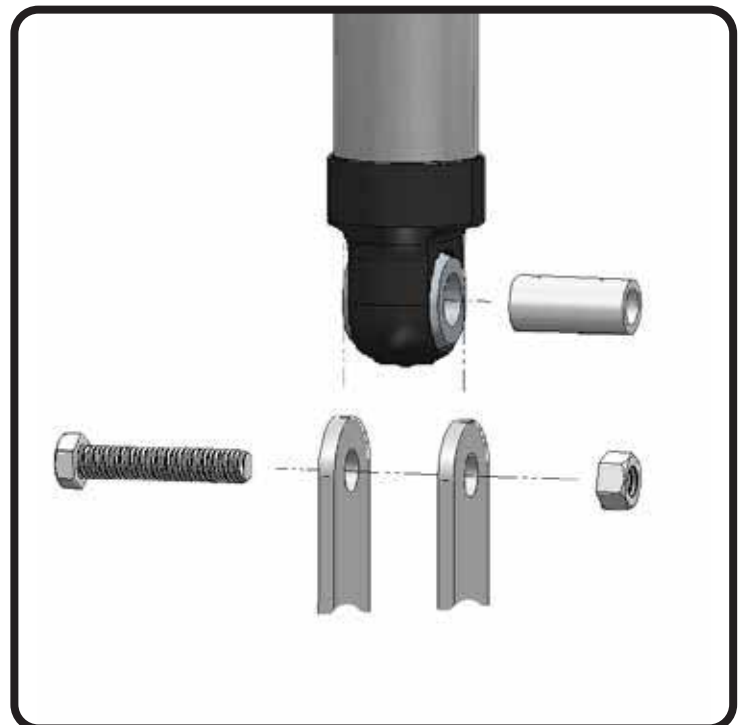

Figure 2
5. Attach the shock body and eyelet to the OEM frame mounts. Use the OEM hardware to attach the shock (Figure 2).